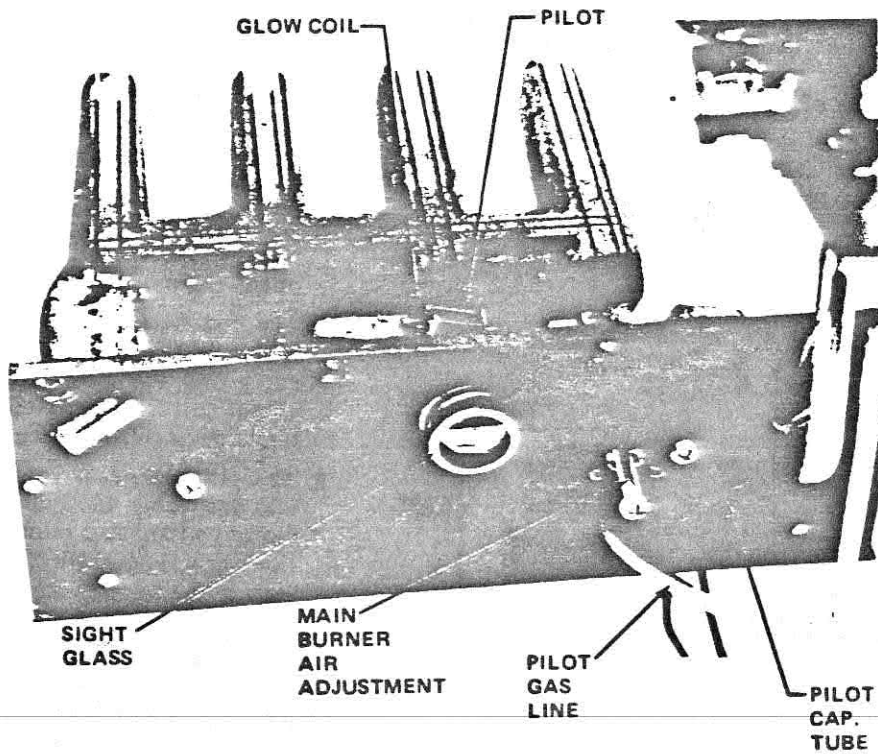

Figure 18b
4. Remove observation window (Figure 18b) and allow furnace to set five (5) minutes to dissipate any gas that may have accumulated in combustion chamber.
The burner and controls assembly are mounted on a removable panel located in the lower portion of the vestibule area. The manual shut off valve, gas control valve, and pilot shut off valve are located in the return air compartment. The entire assembly is removable as shown in figure 18b.
The pilot assembly consists of the pilot burner, thermal bulb (for pilot flame detection), and ignitor coil. The assembly is located just back of the venturi, opposite the observation port. (Figure 18b).